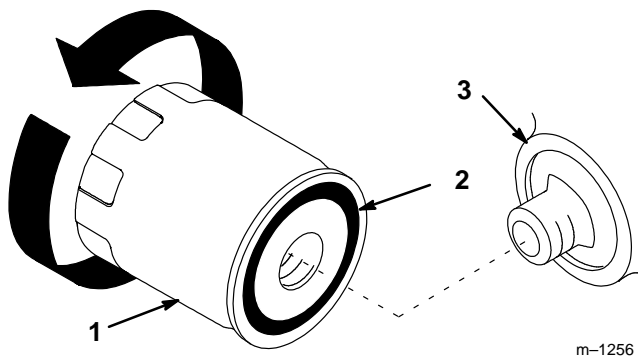

Figure 28
2. Remove the old filter and wipe the filter adapter (Fig. 28) gasket surface.
3. Apply a thin coat of new oil to the rubber gasket on the replacement filter (Fig. 28).
4. Install the replacement oil filter to the filter adapter. Turn the oil filter clockwise until the rubber gasket contacts the filter adapter, then tighten the filter an additional 1/2 turn (Fig. 28).